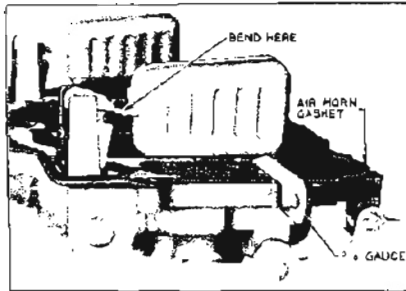

Figure 3-51—Checking Float Level adjust, bend float lever. After any adjustment, recheck float alignment.
10. Adjust Float Level. (Use 1964-5 Carburetor Gauge Set J-21944.) With air horn inverted and air horn gasket in place, check clearance between each float (at outer end) and air horn gasket using 3/16" gauge or a 3/16" drill. See Figure 3-51. To